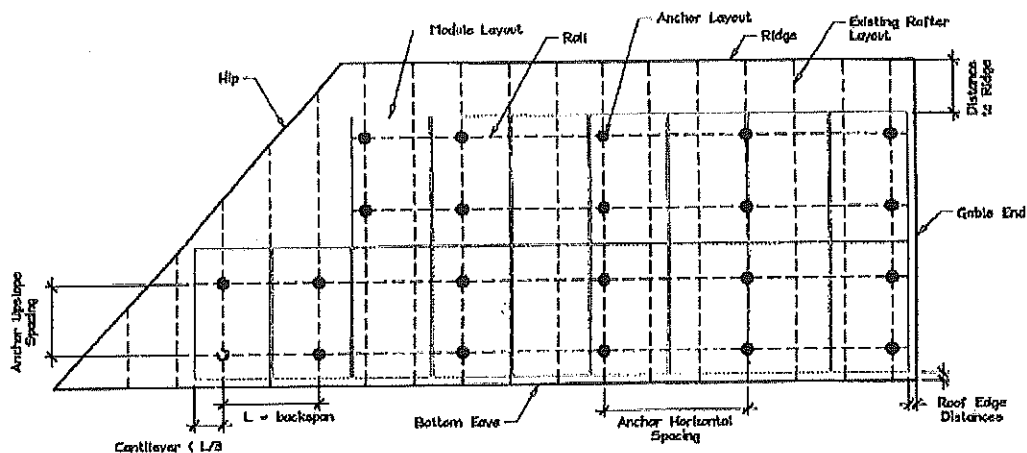

Figure 2. Sample Solar Panel Array and Anchor Layout Diagram (Roof Plan).
E. Is a roof plan of the module and anchor layout attached? (see Figure 2)
- 1) Proposed anchor horizontal spacing (see Figure 2): _____' - _____" ft-in
1. Anchors are also known as "stand-offs", "feet", "mounts" or "points of attachment". Horizontal anchor spacing is also known as "cross-slope" or "east-west" anchor spacing (see Figure 2).